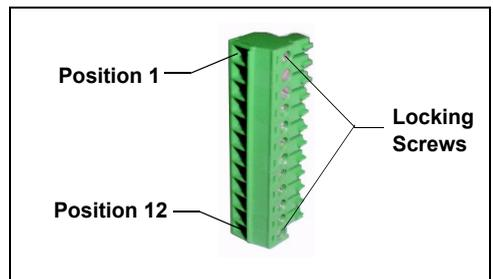

Figure B-64. 12-Position Connector Plug
6. Locate the 12-position connector plug (P/N 923686) in the ICS-2000 Ship Kit (P/N 057905) (see Figure B-64).